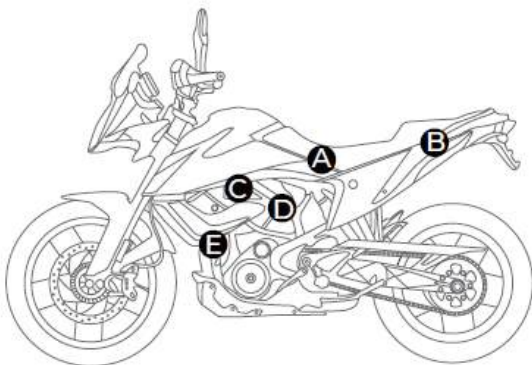

Figure 3-6
2. Locate the vehicle's DLC. On most motorcycles, the DLC is typically located under the seat or near the engine. Figure 3-6 shows the five most common DLC locations on motorcycles.